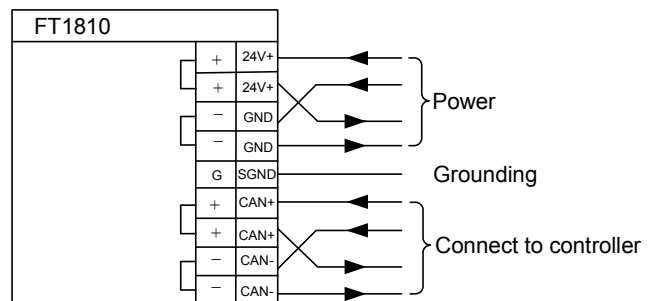

Fig. 5 Connection
5. Connect the cables to the terminal in accordance with the connection diagram (Fig. 5). The terminal equipment of CAN bus is required to be parallel connected with a resistance of 120Ω, which can be achieved through internal jumper of FT1810 (Fig. 3).